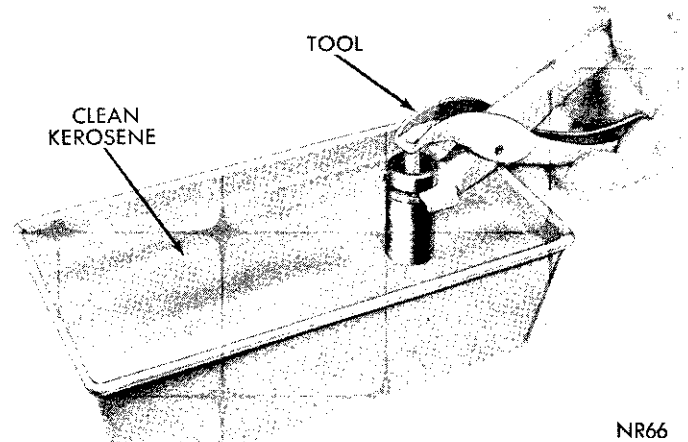

Fig. 18—Testing Tappet Using Tool C-3160
- (1) Fill a pan with clean kerosene.
- (2) Remove cap from plunger and plunger from tappet body.
- (3) Fill tappet body with kerosene and install plunger.
- (4) Unseat check valve with a brass rod to permit complete installation of plunger. Replace cap.
- (5) Hold tappet in an upright position and insert lower jaw of pliers, Tool C-3160, in the groove of tappet body (Fig. 18).
- (6) Engage jaw of pliers with top of tappet plunger. Test leakdown by compressing the pliers. If plunger
collapses almost instantly as pressure is applied, disassemble tappet, clean and test again (Fig. 18).